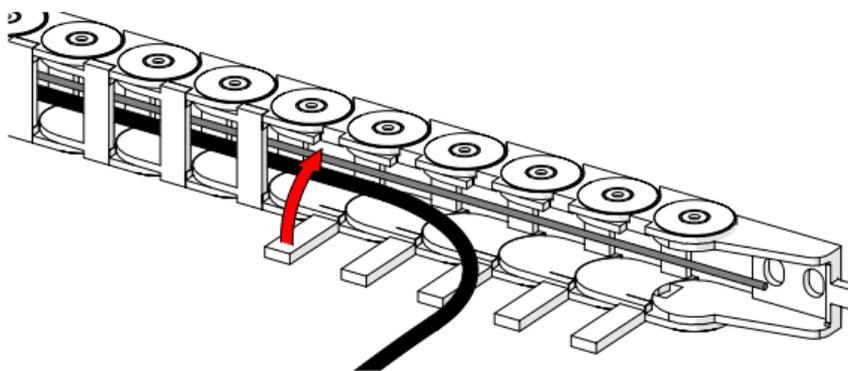

Fig. 62 - Route cabling and close flaps
2. Route all hoses and cables into the cable tray. Clip the flaps to trap the cables in the cable tray (Fig. 62).